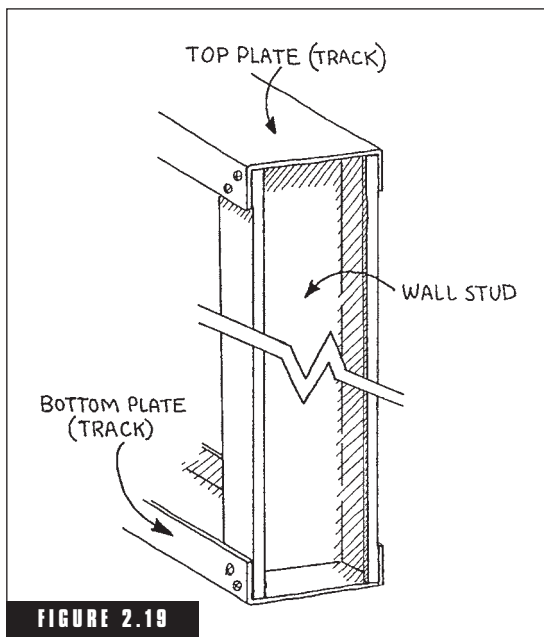

FIGURE 2.19
- U-shaped channels, or tracks, are used for rim joists and wall plates, and built-up assemblies of C-members (Fig. 2.19). The track has a web and flanges, but no lip. When used as wall plates, vertical studs fit inside the tracks and the flanges are fastened together (Fig. 2.19). Clip-angles are L-shaped short pieces of metal, usually with a 90-degree bend, used for connections (Fig. 2.20).